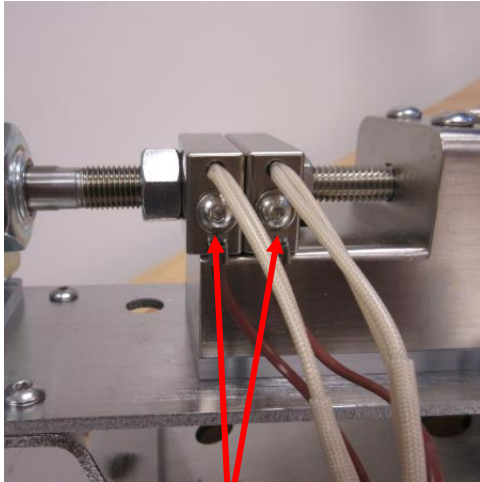

Figure 3.4.1
- Remove the two 4x8mm screws attaching the Thermocouples to the upper and lower jaw using a 2.5mm hex wrench. **Figure 3.4.1 and 3.4.2** *Note:* Be sure to label each thermocouple and/or heater cartridge as to its position, upper or lower, and be sure to replace them in the correct positions. The unit will not operate correctly otherwise.